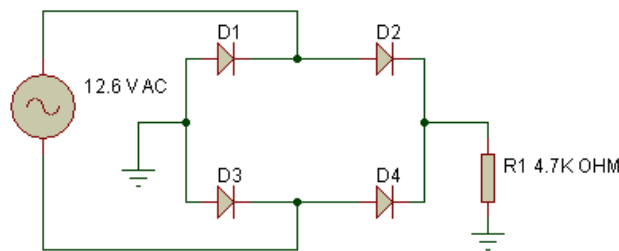

Figure4
1. Set up the circuit on the breadboard from schematic figure 4.